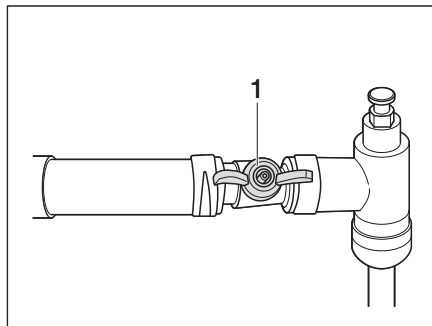

Fig. 299 Alde stopcock, opened
- Set the stopcock (Fig. 299,1) diagonally to the pipe.
- Set the stopcock (Fig. 299,1) parallel to the pipe.